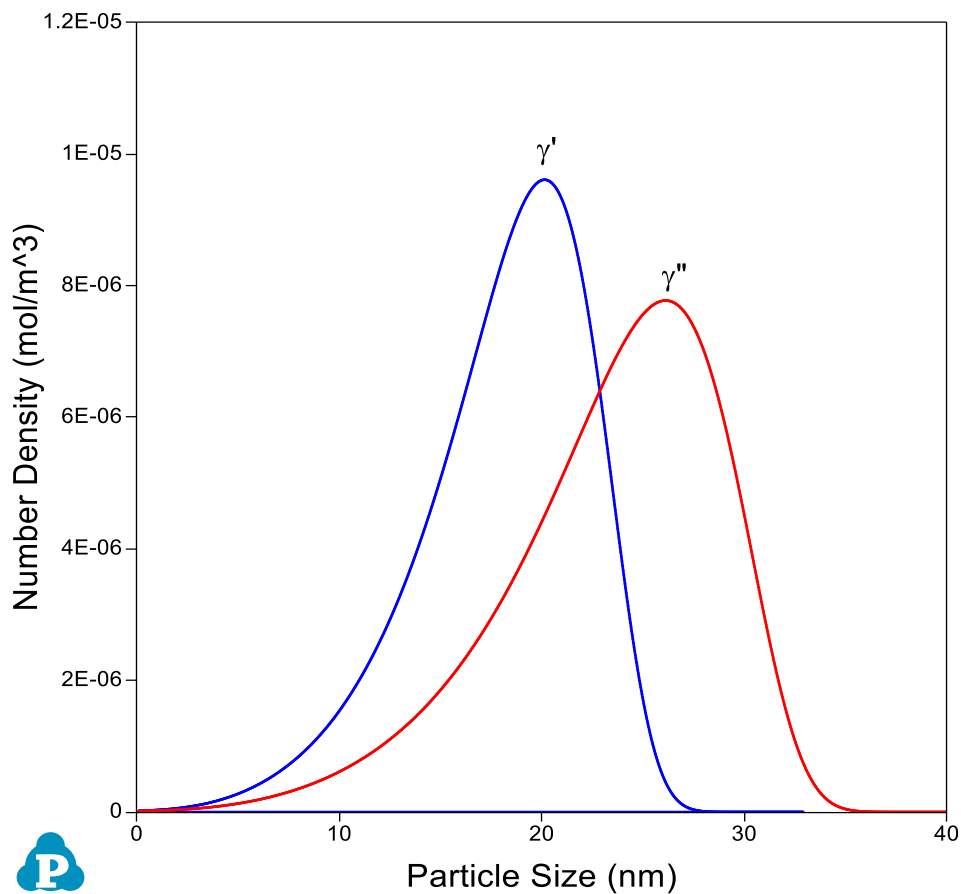

Figure 3.3.7: Particle size distributions of γ' and γ'' at final stage
- Plot particle size distribution from the new table by selecting the particle size as x-axis and number density as y-axis. Plot it for L12 (γ') phase first and then add the one for γ'' as shown in Figure 3.3.7;